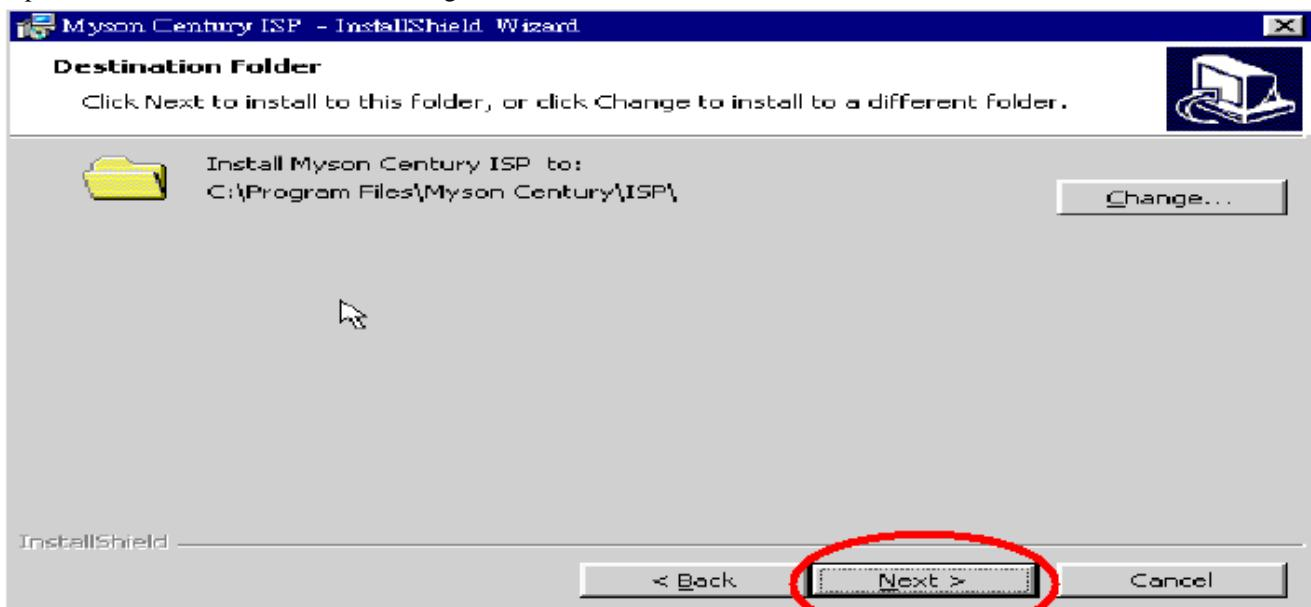

Fig 2.4
2.4 Keep default setting or press " Change " button for selecting the path that you want , and then press " Next " button to continue, see Fig 2.4.